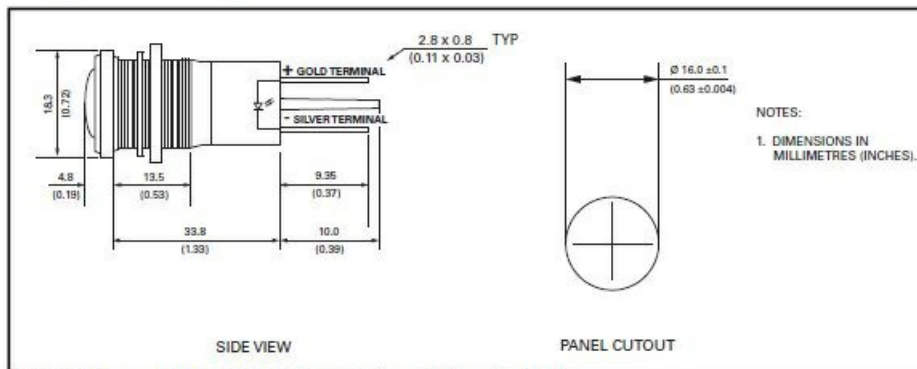

FIGURE 3. Remote 16-mm IP67 LED Lamp Outline and Mounting Details.
NOTE: Bonding terminal (G) must be connected to the ground for correct fault indication and to ensure that fault potential is not transferred to the display. Outline and mounting details for the remote LEDs are shown in Fig. 3. Cable length should be limited to 10 m (33 ft). The recommended cable is 22 – 18 AWG (0.33 to 0.82 mm²) wire. Use shielded cable for cable lengths exceeding 2 m (6 ft). When the shielded cable is used, connect the cable shield to terminal SH (18) at the EL3100 only.
3. NOTE LED POLARITY. SEE FIG. 3.